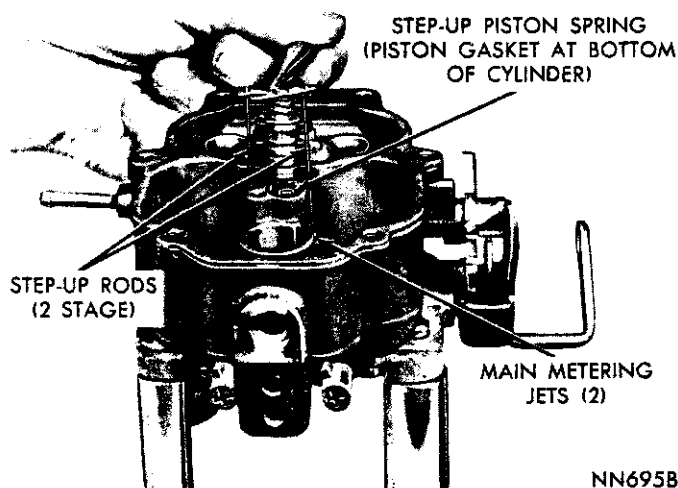

Fig. 5—Removing or Installing Step-up Piston
(9) Remove fuel inlet needle valve, seat and gasket from main body.
(10) Lift out float fulcrum pin retainer, then lift out floats and fulcrum pin.
(11) Remove step-up piston retaining screw, and slide step-up piston and rods out of well, (Fig. 5). Now, lift out step-up piston spring. Remove step-up piston gasket from the bottom of well.
step-up piston and rods. Carefully guide step-up rods into main metering jets. (Fig. 5). Install retaining screw and tighten securely.